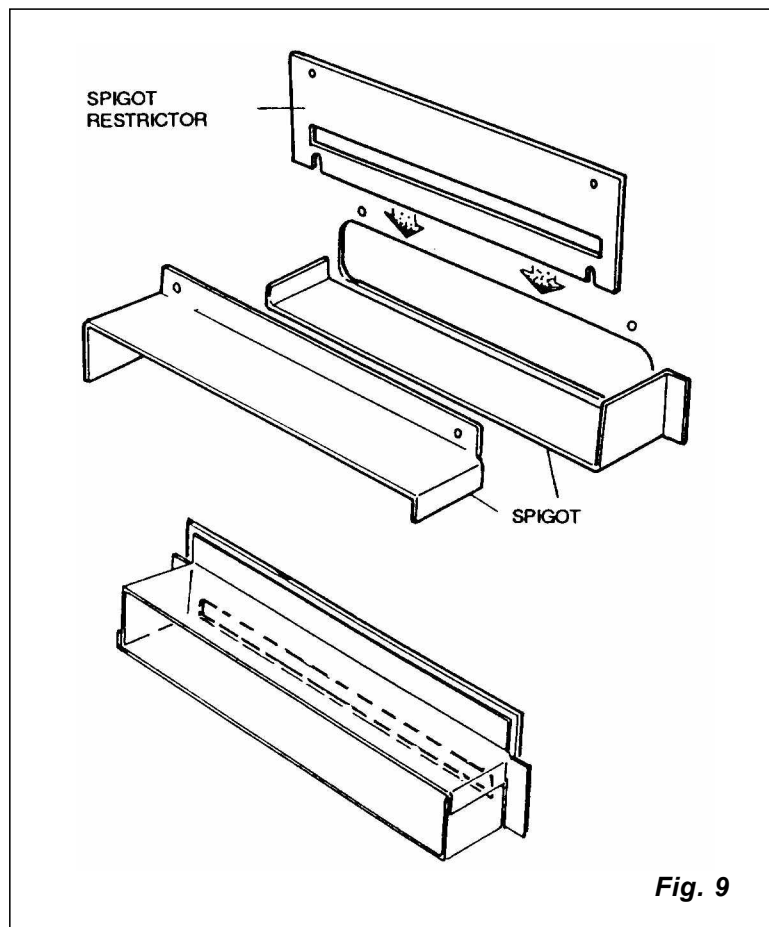

Fig. 9
## 3.5 FLUE SPIGOT RESTRICTOR (Fig. 9)
- (a) Standard 228mm x 228mm (9in x 9in) Brick Chimney. The flue spigot restrictor must not be used if the chimney height is less than 4.3m (14ft) or if poor draught is suspected. If over 4.3m (14ft) in height with good draught, the flue spigot restrictor (Fig. 9) must be fitted.
## 3.6 FIT FLUE SPIGOT (Fig. 9) (and Flue Spigot Restrictor if Required)